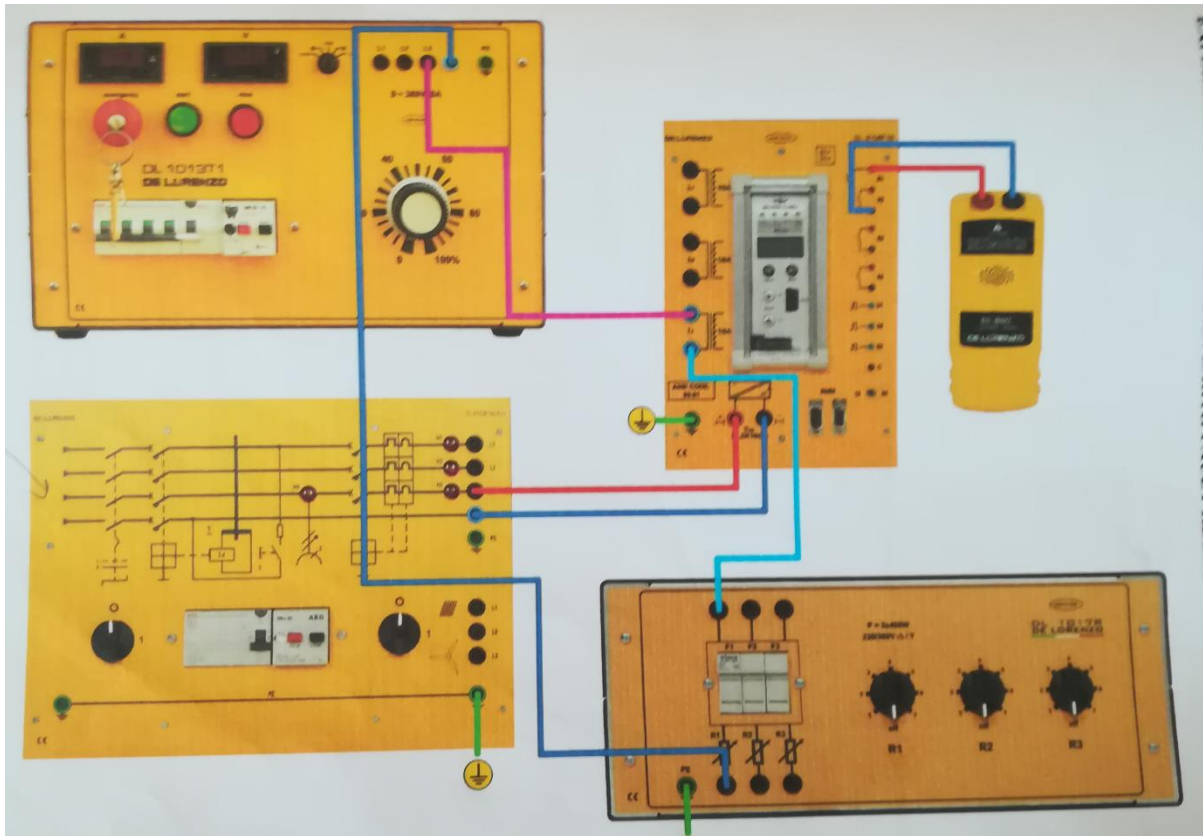

Figure 2: Experimental Setup of Earth Overcurrent Relay
- Connect circuit as shown in Fig 2